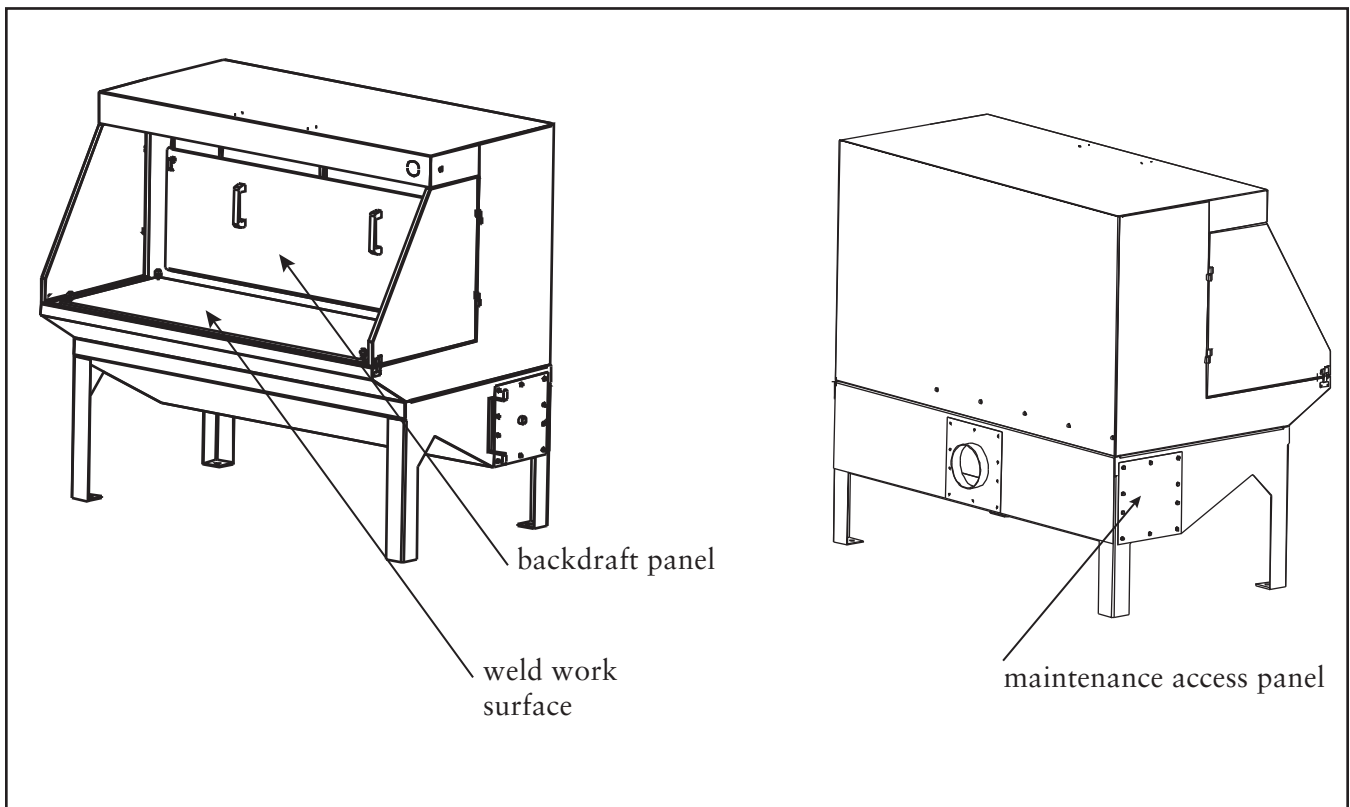

Figure 4, Scheduled Maintenance
Scheduled Maintenance (See Figure 4)
1. Remove the welding work surface by lifting at the eyebolts. See Figure 4, Scheduled Maintenance.